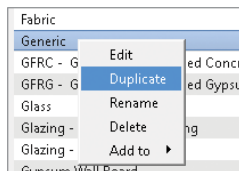

FIGURE 9.3 Duplicating the generic wall material
- You'll duplicate a material and then modify it. Duplicating is a safe way to edit a material without affecting all model elements that use the original material. From the Project Materials list, the material named Generic should be highlighted blue. Right-click it and select Duplicate, as shown in Figure 9.3. Find the duplicated material in the list named Generic (1), right-click it, and select Rename. Change the name of the material to Brick.